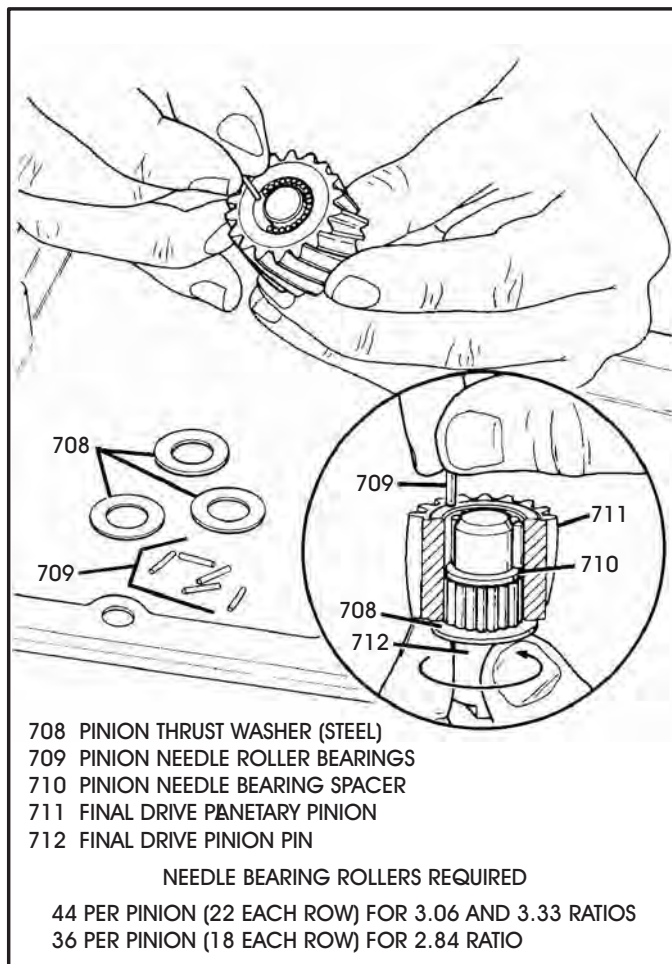

Figure 82
6. Pinion needle bearing spacer must be installed between the two rows of needle roller bearings, as shown in Figure 82.
7. Install needle roller bearings, one at a time, into planet pinion, as shown in Figure 82, install a washer on the bottom and repeat process for the other side.
8. Occasionally twist the pinion shaft so needle bearings will line up and allow all needles to be installed, as shown in Figure 82.